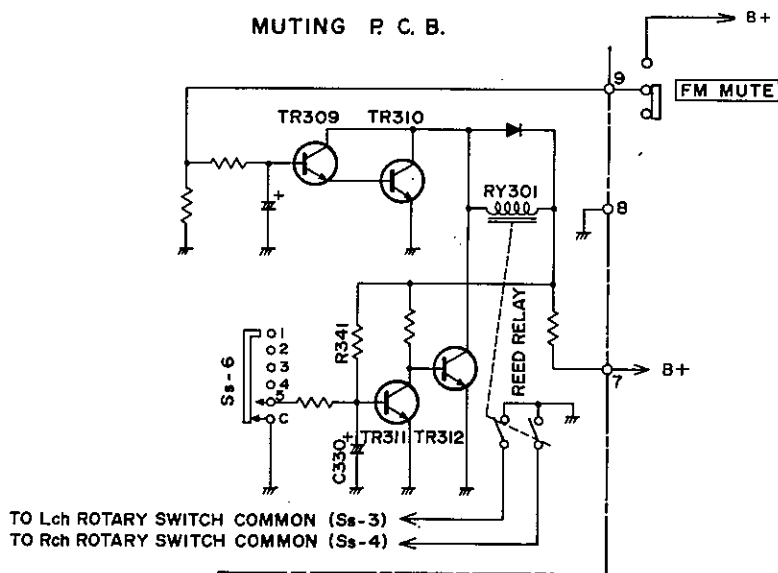

Figure 33
The switch Ss-6 is a shorting type and goes through a short-circuit condition when turning from 1 (AM) to 2 (FM), etc. (it is momentarily grounded). This turns TR311 off and TR312 on. Thus, Reed Relay RY301 is activated and output is cut off. The time constant of R341 and C330 allows the cut off condition to last for about one second (before C330 charges up to a point where TR311 turns on again, etc.). (Figure 33)